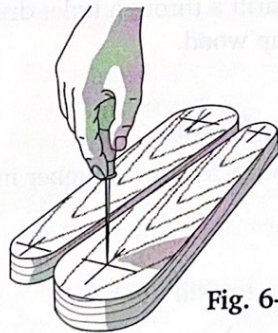

Fig. 6-2
- _____ 5. The tool being used in Fig. 6-2 is a(n) _____. (two words)